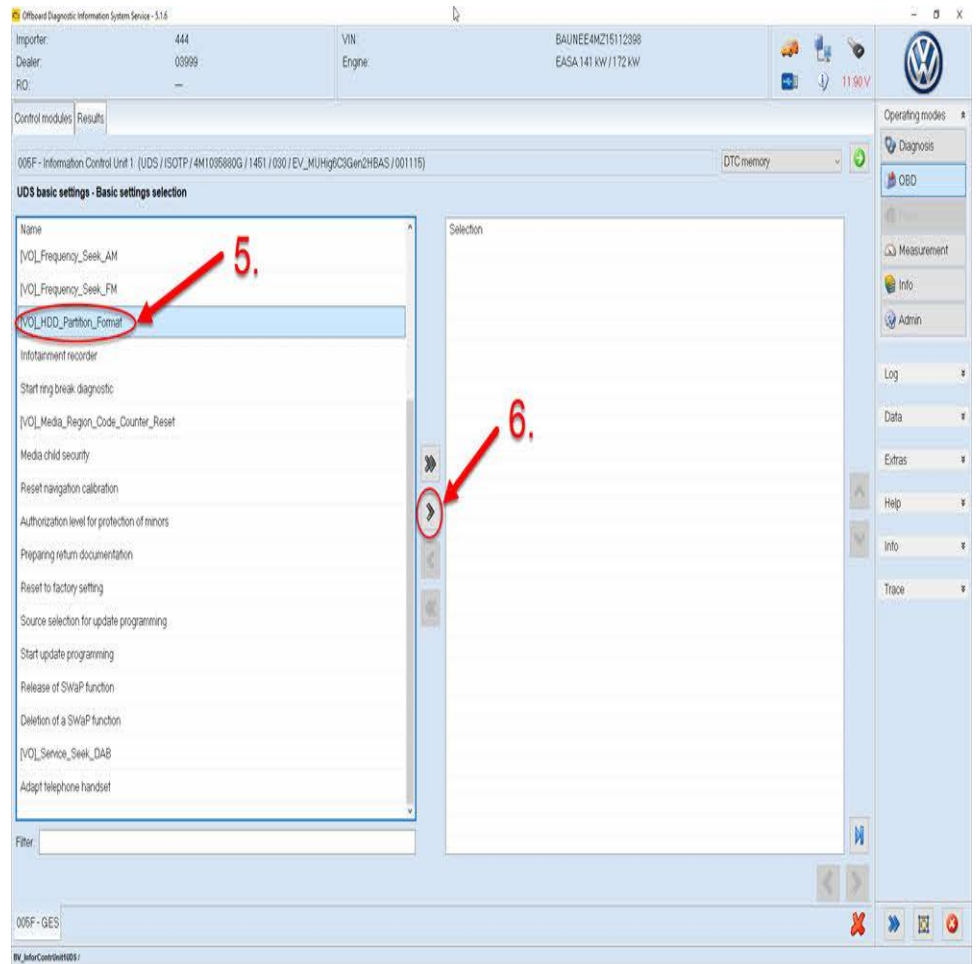

Figure 4. Select the basic setting.
3. In the list on the left, select “[VO]_HDD_Partition_Form at” (5), then click the single right-pointing arrow in the center (6) (Figure 4).